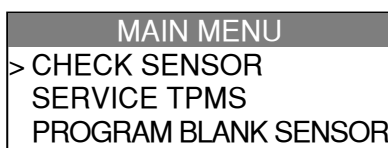

Fig. 3
- Then reverts to the **MAIN MENU** as in **Fig. 3**,